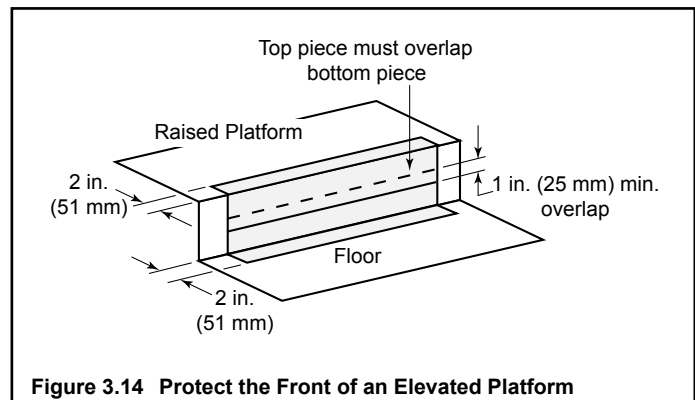

Figure 3.14 Protect the Front of an Elevated Platform
- Protect the front of a platform elevated above the hearth extension with metal strips (not included with fireplace) per Figure 3.14. See Section 7 for hearth extension instructions.